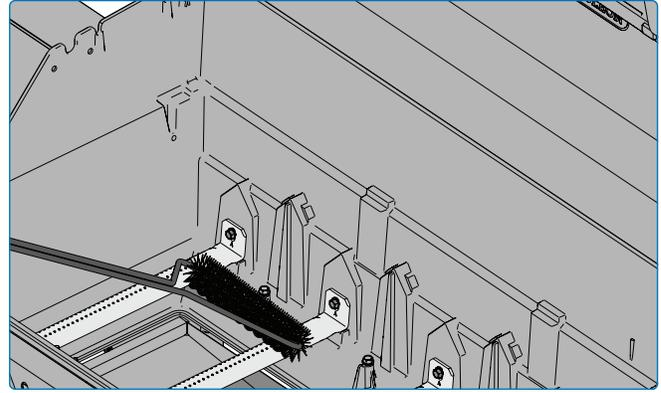

Fig. 22
5. Sweep all remaining debris from inside the grill into the drip pan (Fig 22,23).